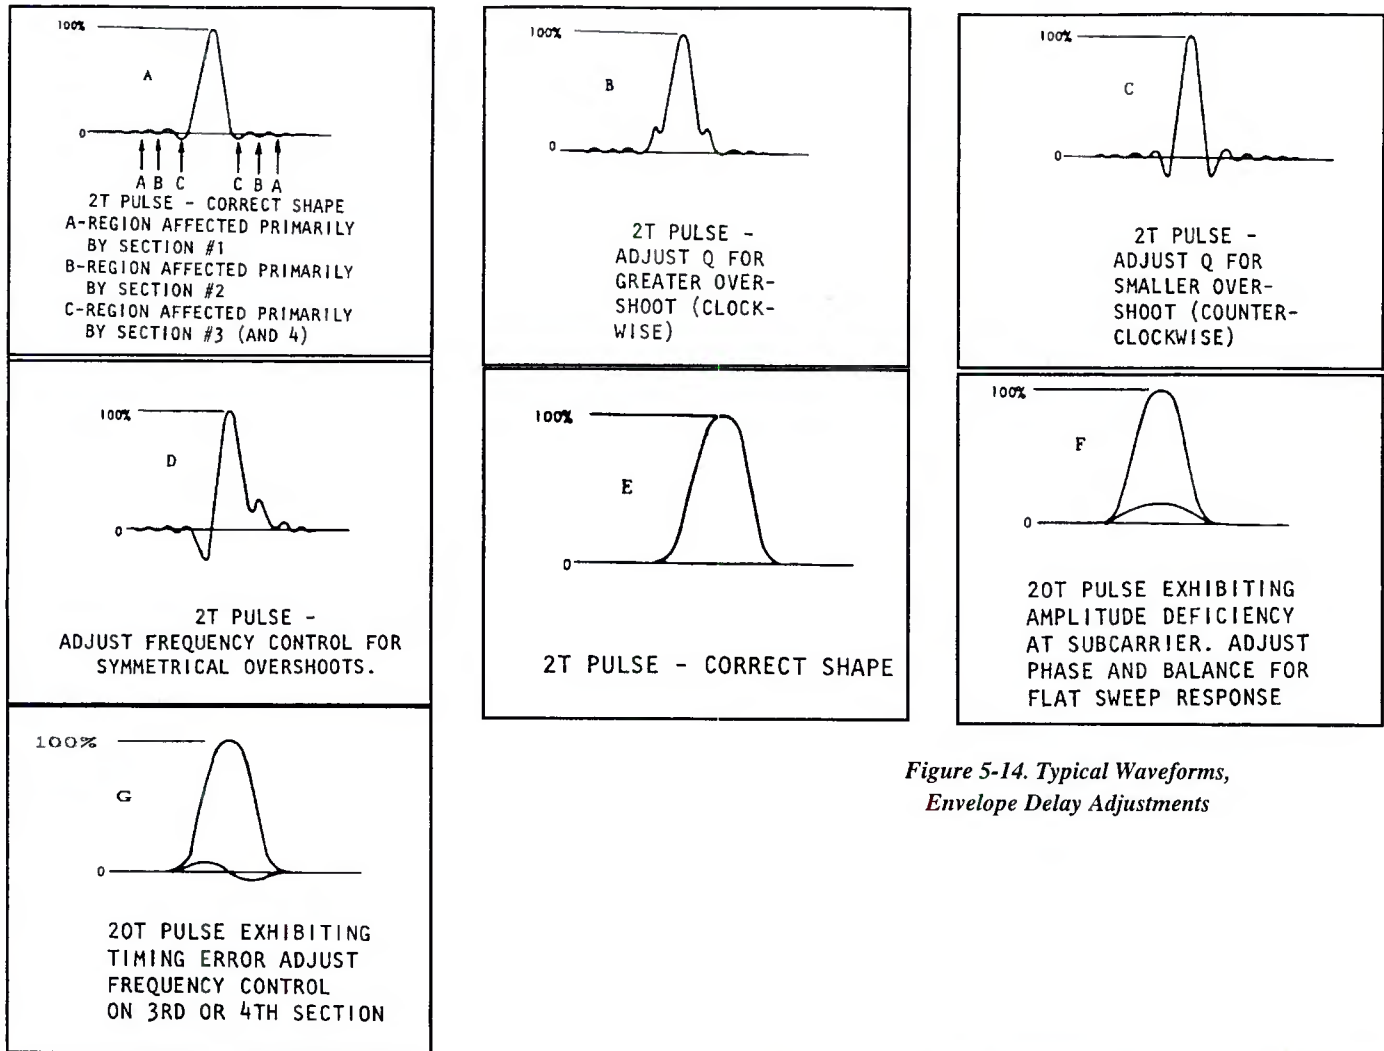

Figure 5-14. Typical Waveforms, Envelope Delay Adjustments
minimum baseline distortion is seen on the 12.5 or 20T modulated pulse. See Figure 5-14.
- Observing 12.5T pulses adjust Q control R-92 to remove baseline disturbance. See Figure 5-14.